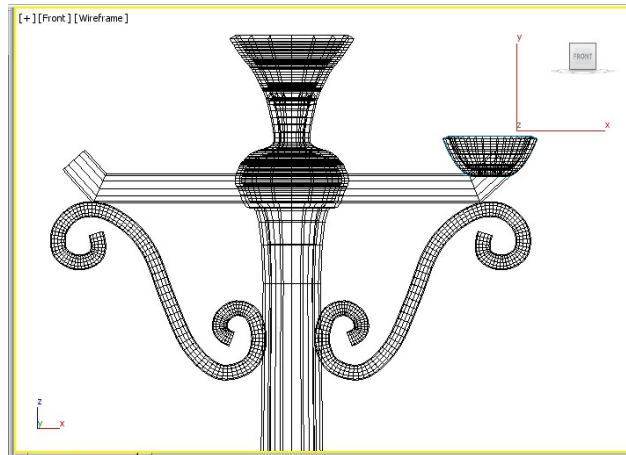

Figure 6-65 The base01 in the Front viewport
3. Rename the new line as *base01*. Apply the **Lathe** and **Shell** modifiers to *base01* as discussed earlier. Figure 6-65 shows *base01* in the Front viewport.